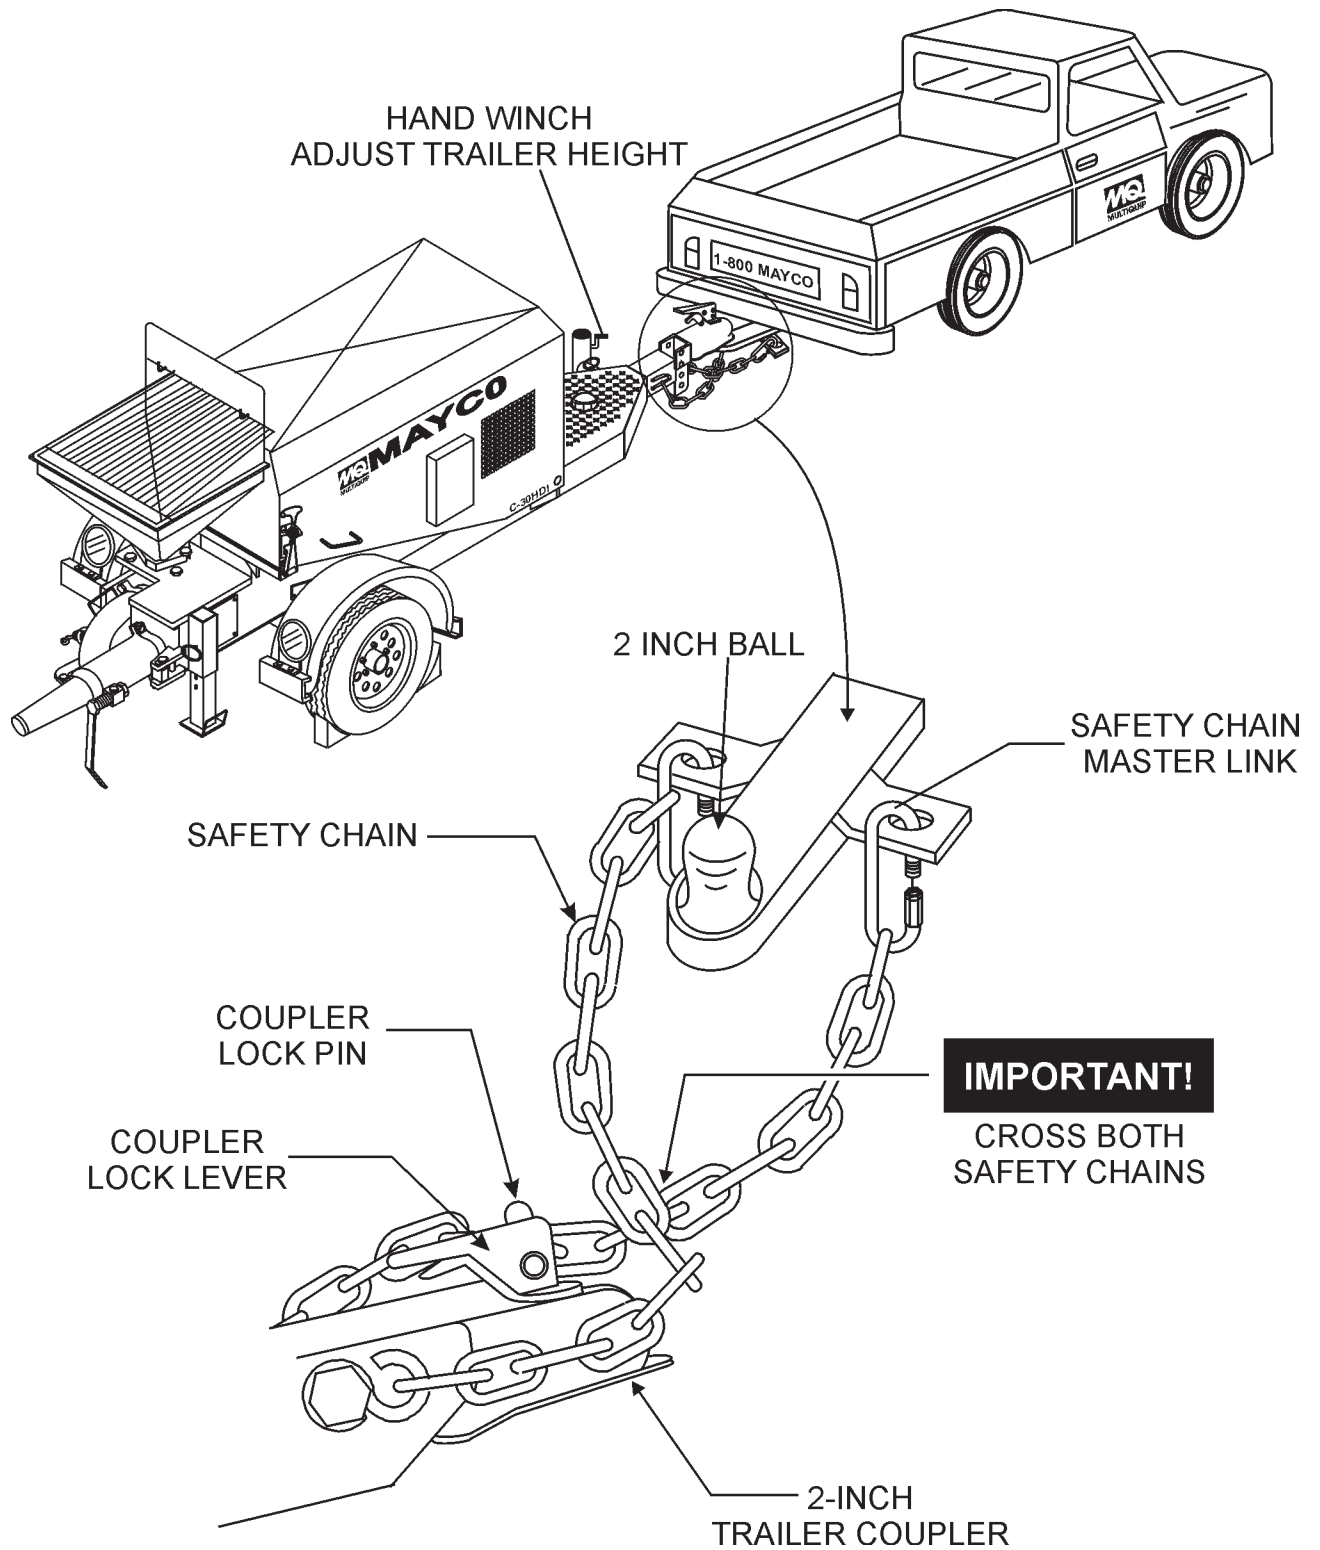

Figure 2. Towing Applications
4. Attach safety chains as shown in Figure 2. Remember to **cross** the safety chains.
Figure 2 shown below illustrates the typical towing application that should be used when towing the pump.